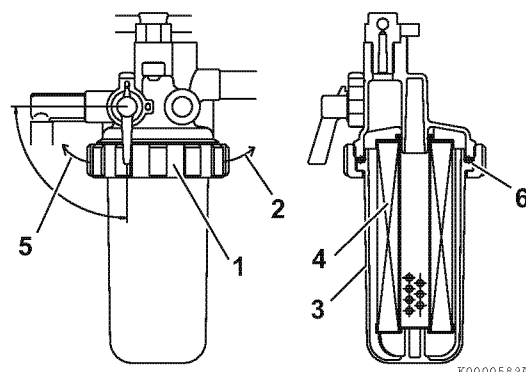

Figure 5-13
*Note: If there is a red line (2, **Figure 5-13**) in the outer element, reinsert the element until the overlap position of red line and end face of the air cleaner case.*
3. Turn the retaining ring (1, **Figure 5-13**) to the left (2, **Figure 5-13**).
4. Carefully remove the cup (3, **Figure 5-13**) and pour the fuel into an approved container and dispose of waste properly. Hold the bottom of the cup with a shop towel to prevent the fuel from dripping. Wipe up any spills immediately.
5. Remove the element (4, **Figure 5-13**) by pulling it down.
8. Check the condition of the cup O-ring (6, **Figure 5-13**). Replace if necessary.
9. Reinstall the cup to the mounting flange and turn the retaining ring (1, **Figure 5-13**) to the right (2, **Figure 5-13**). Hand-tighten only.